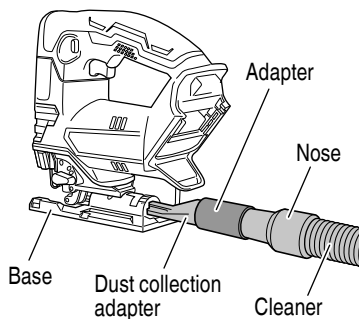

Fig. 31
By connecting with cleaner (sold separately) through dust collection adapter and adapter (sold separately), most of dust can be collected. (Fig. 31)
- (3) Connect the dust collection adapter with adapter. (Fig. 31)
- (4) Connect the adapter with the nose of cleaner. (Fig. 31)